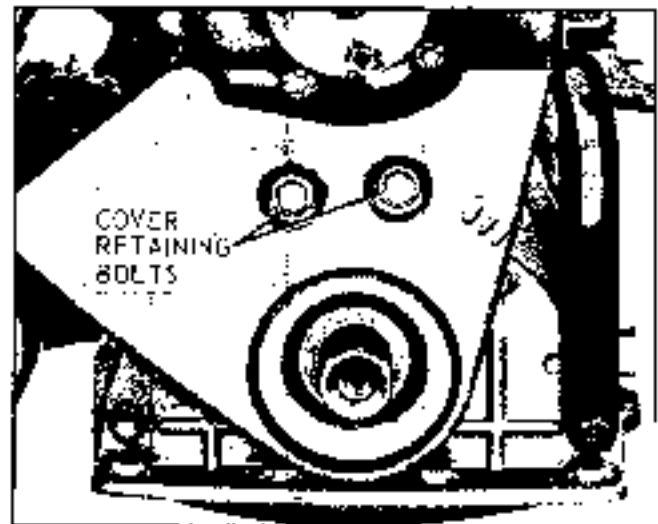

Fig. 6-31 Lower Front Timing Cover Retaining Bolts
2. Remove two attaching bolts and remove cover (Fig. 6-31).
5. Remove timing belt lower front cover (Fig. 6-31).